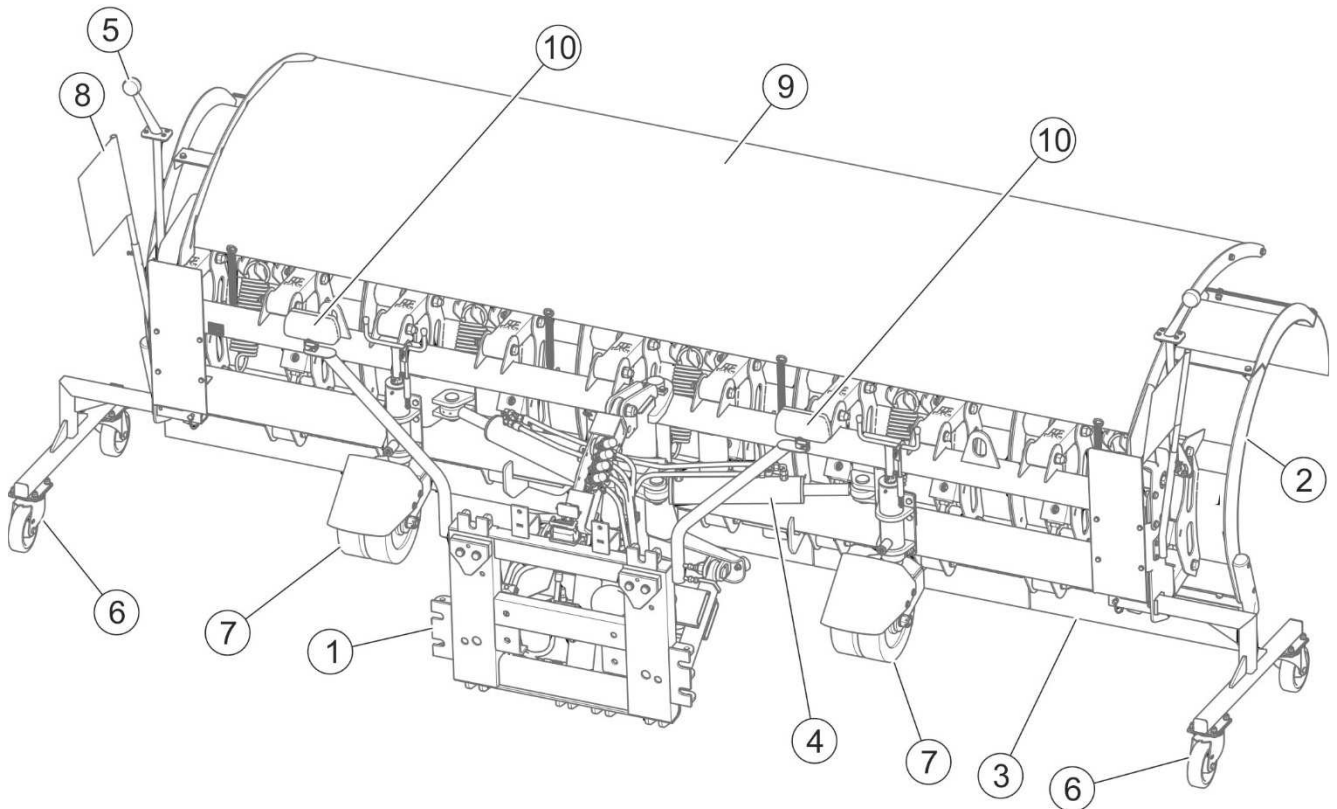

FIGURE 3.2 General design (hydraulic system version - 2 pairs of quick couplers)
(1) - linkage; (2) – movable mouldboard segment; (3) - blades; (4) - hydraulic system; (5) - clearance lamps; (6) - parking stands; (7) - support wheels; (8) – warning flags (option); (9) - shield protecting against snow dust (option); (10) - additional lights (option).
PUS-S27 / PUS-S32 / PUS-S34 / PUS-S36 / PUS-S40 snowploughs (FIGURE 3.2) are equipped with a centrally positioned mouldboard consisting of metal segments (2). Each segment is mounted on 4 rockers and on one or two (optionally) pressure springs. Thanks to the springs, each mouldboard segment can swing and return to working position when an obstacle is encountered. Rubber, perforated or Kuper blades (3) (depending on equipment) are installed under each mouldboard segment. During operation, the snowplough is supported on the ground on two support wheels (7) or slides (option), whose height can be adjusted. Linkage (1) makes it possible to hitch the snowplough to a carrying vehicle equipped with a front mounting plate of A or B type according to DIN 76060 or SETRA mounting plate (depending on equipment version). Parking stands with wheels (6) make it possible to support and transport the snowplough unhitched from the carrying vehicle on the yard or to hitch the snowplough to the carrying vehicle.